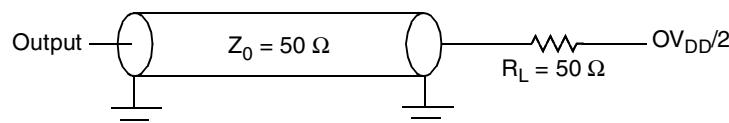

Figure 14. Local Bus C Test Load
Figure 14 provides the AC test load for the local bus.
1. All outputs are measured from the midpoint voltage of the falling/rising edge of t_{TCLK} to the midpoint of the signal in question. The output timings are measured at the pins. All output timings assume a purely resistive 50- Ω load (see Figure 14). Time-of-flight delays must be added for trace lengths, vias, and connectors in the system.
2. The symbols used for timing specifications follow the pattern of $t_{(\text{first two letters of functional block})(\text{signal})(\text{state})(\text{reference})(\text{state})}$ for inputs and $t_{(\text{first two letters of functional block})(\text{reference})(\text{state})(\text{signal})(\text{state})}$ for outputs. For example, t_{JTDVKH} symbolizes JTAG device timing (JT) with respect to the time data input signals (D) reaching the valid state (V) relative to the t_{JTG} clock reference (K) going to the high (H) state or setup time. Also, t_{JTDXKH} symbolizes JTAG timing (JT) with respect to the time data input signals (D) went invalid (X) relative to the t_{JTG} clock reference (K) going to the high (H) state. Note that, in general, the clock reference symbol representation is based on three letters representing the clock of a particular functional. For rise and fall times, the latter convention is used with the appropriate letter: R (rise) or F (fall).